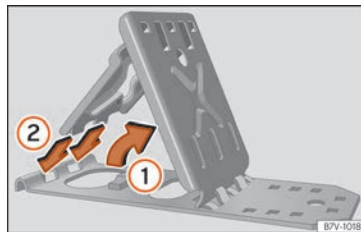

Fig. 40 To unfold the foldable wedges.
- Lift the base plate » **Fig. 40** ①.